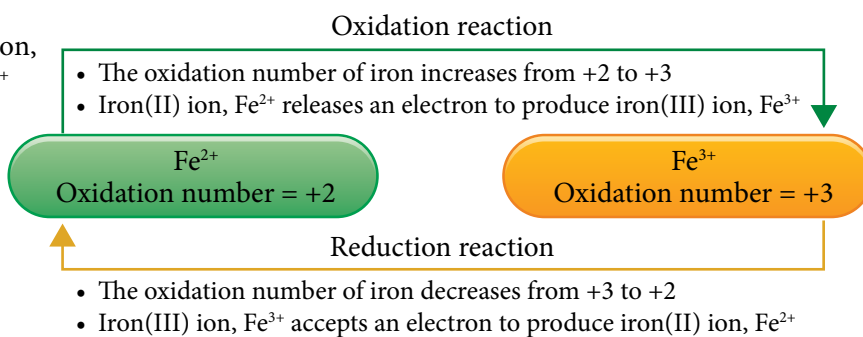

Figure 1.7 Conversion of iron (II) ion, Fe^{2+} to iron(III) ion, Fe^{3+} and vice versa
- Conversion of iron(II) ion, Fe^{2+} to iron(III) ion, Fe^{3+} and vice versa in Figure 1.7 shows that the change in the oxidation number in the redox reaction is associated with the transfer of an electron.